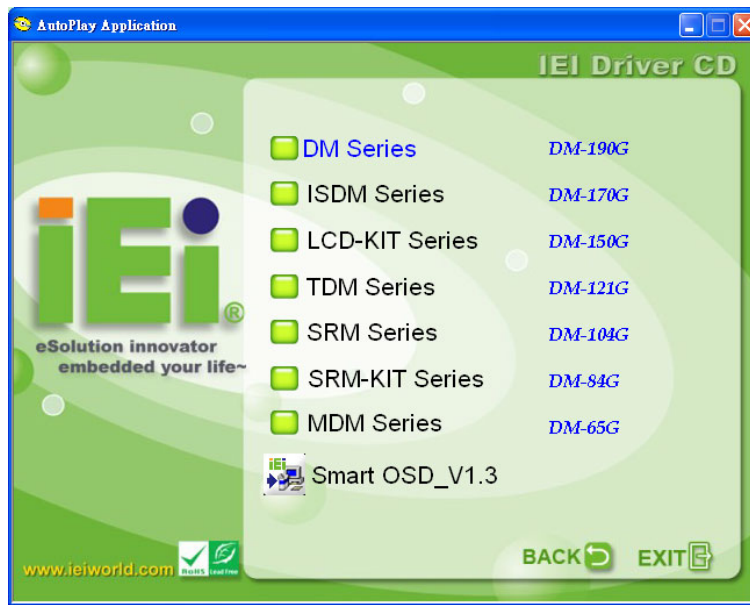

Figure C-1: smartOSD Installer
Step 1: When the CD install the screen shown in **Figure C-1** appears.
Step 2: Click “Smart OSD” in **Figure C-1**.